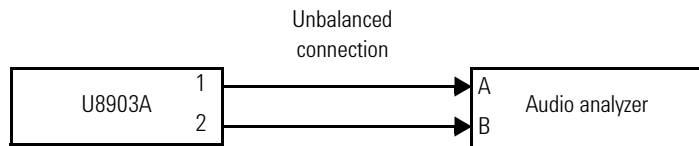

Figure 2-4 U8903A to audio analyzer connection for crosstalk verification
- 1 Connect the U8903A output channel to be tested and its adjacent output channel to channel A and channel B of the audio analyzer respectively via the Unbalanced connection as shown in Figure 2-4. Preset both the U8903A and audio analyzer.